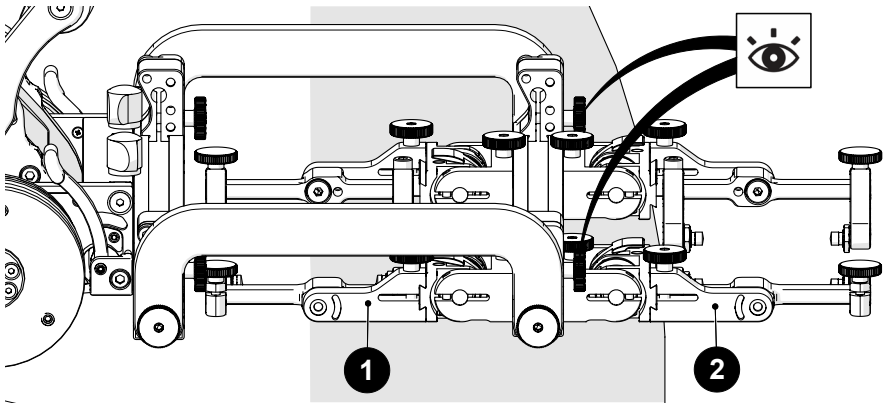

Fig. 175 - Position primary and secondary probe holders
3. Mount the low profile probe holder frame to the crawler (see "Cable Retainer" on page 49). When mounting the low profile frame, ensure the attachment knobs (Fig. 175) are at the front (non-crawler side).